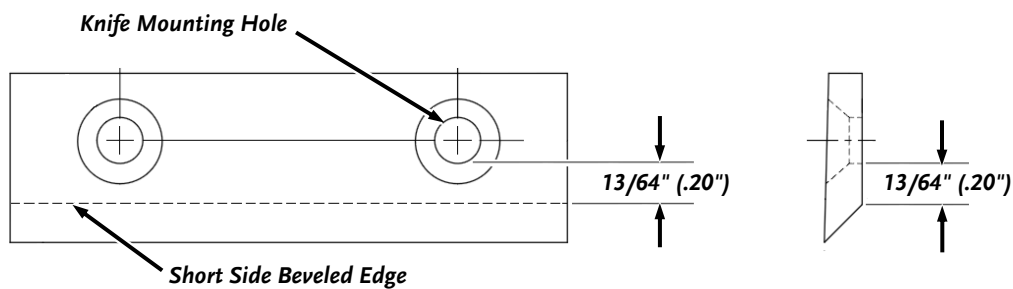

Figure 29: Sharpened Knife
- Once this measurement is below $7/32$ " (**Figure 29**), or if you are unable to remove dents or gouges with these guidelines, replace the Knife.